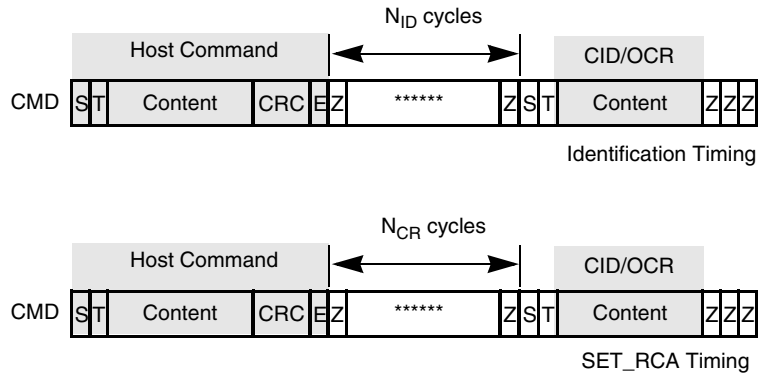
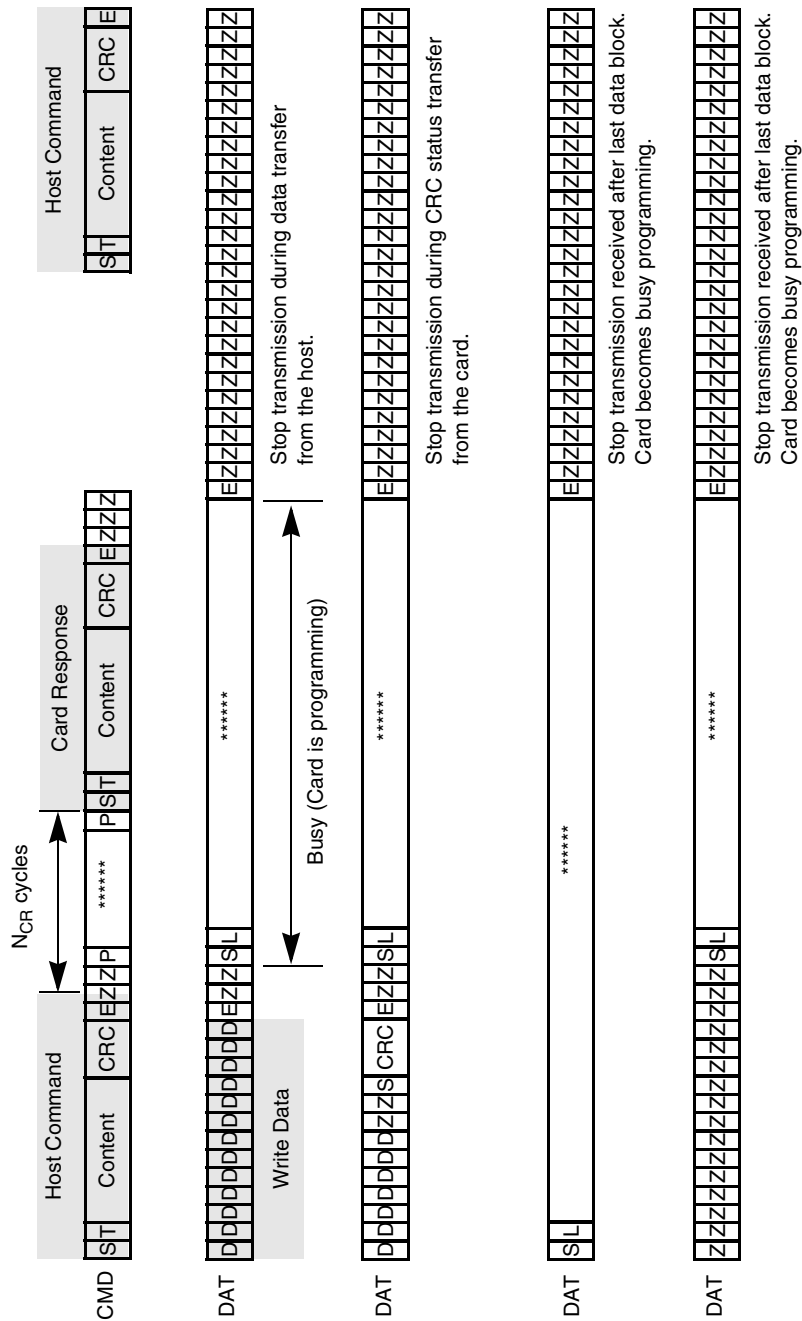

Figure 48. Timing Diagrams at Identification Mode
Figure 52. Stop Transmission During Different Scenarios
The card identification and card operation conditions timing are processed in open-drain mode. The card response to the host command starts after exactly  $N_{ID}$  clock cycles. For the card address assignment, SET\_RCA is also processed in the open-drain mode. The minimum delay between the host command and card response is NCR clock cycles as illustrated in Figure 48. The symbols for Figure 48 through Figure 52 are defined in Table 29.
Table 29. State Signal Parameters for Figure 48 through Figure 52
The stop transmission command may occur when the card is in different states. Figure 52 shows the different scenarios on the bus.
Table 30. Timing Values for Figure 48 through Figure 52
**Table 30. Timing Values for Figure 48 through Figure 52 (Continued)**